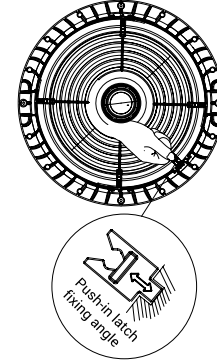

Fig. 6
5. Lock lens in place. Push latch back into original position (Fig. 6).